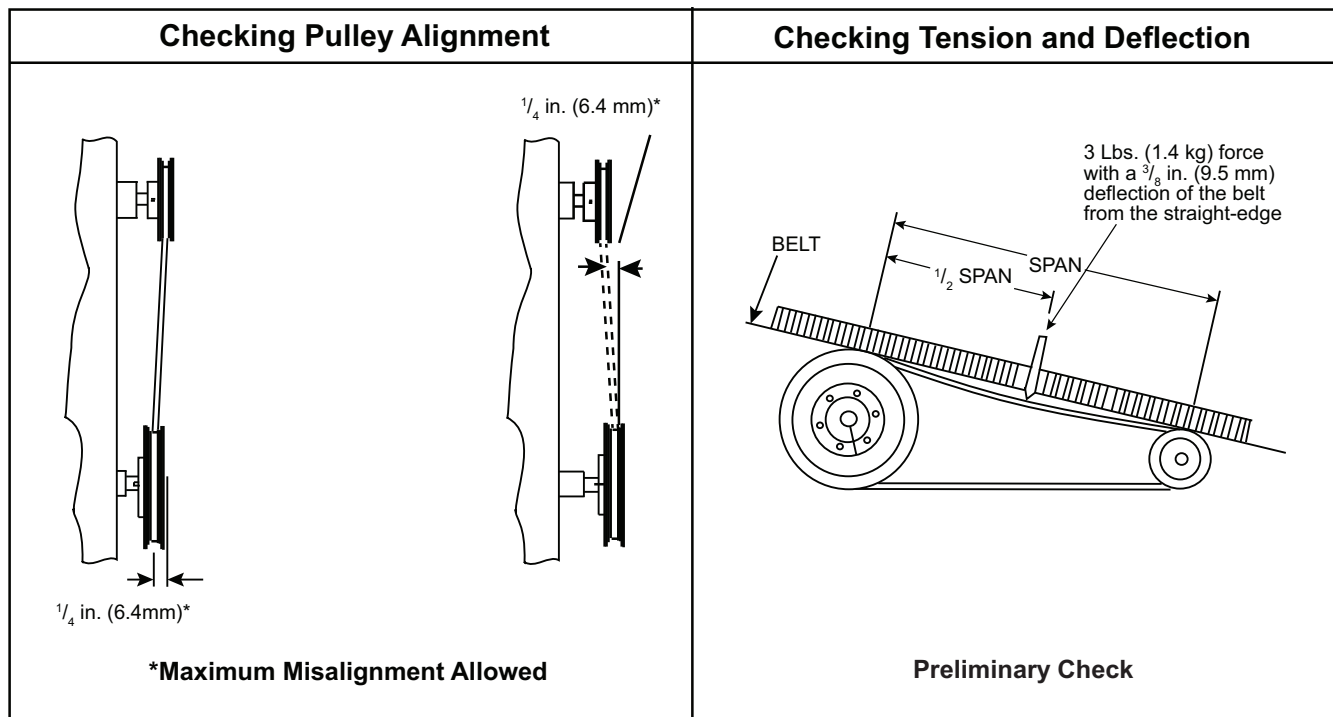

Fig. 32 — Check Pulley Alignment
8. To set the blower for a desired cfm, first turn the outer half of the adjustable pulley clockwise until it meets the inner half of the pulley. See Fig. 32.